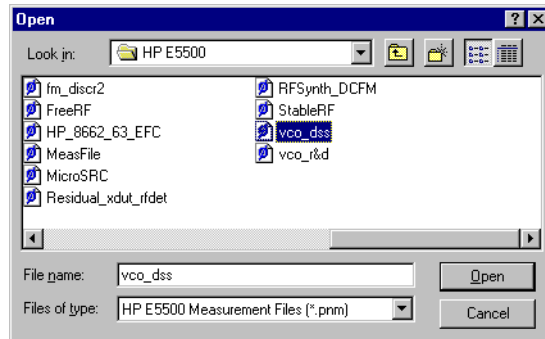

Figure 11-2 Select the Parameters Definition File
- 3 In the File Name box, choose “vco_dss.pnm.” See Figure 11-2.